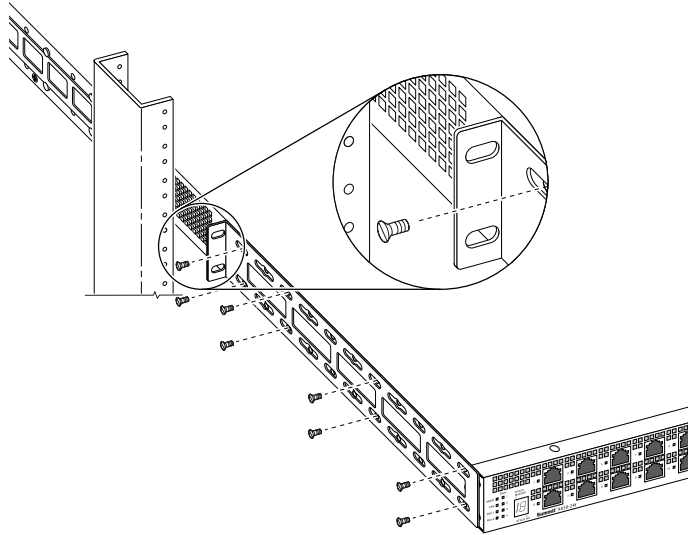

Figure 273: Positioning the Front Mounting Brackets—Two-Post Rack
- 6 Using the provided screws, attach each front bracket to the switch (see Figure 273: Positioning the Front Mounting Brackets—Two-Post Rack on page 301).